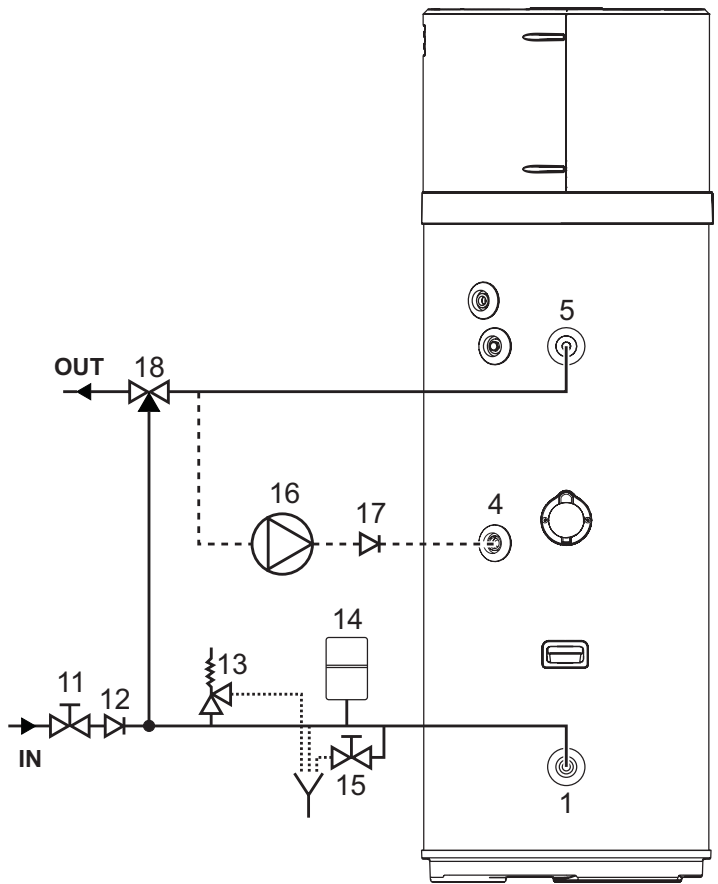

fig. 16 - Example of water system
The following figure (fig. 16) illustrates an example of plumbing connection.
Legend (fig. 16)
**ATTENTION!** The heat pump for DHW production can heat the water to over 60°C. Therefore, to protect from burns, an automatic thermostatic mixing device must be installed on the hot water piping (fig. 16).